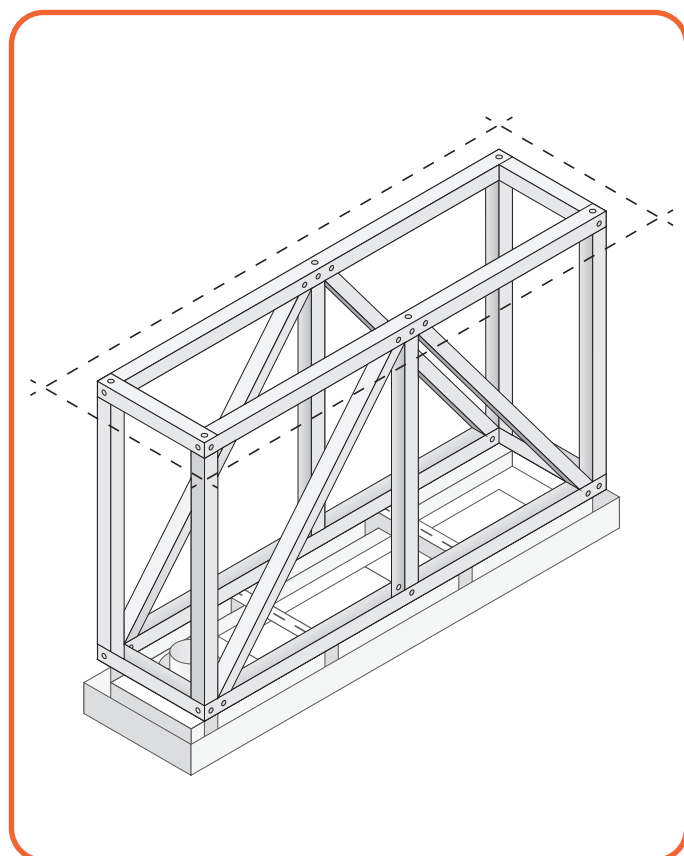

Figure 6.17 | Final result with additional crossbars
- Place crossbars between the profiles used for extra support and fixation of the structure. (Figure 6.17)